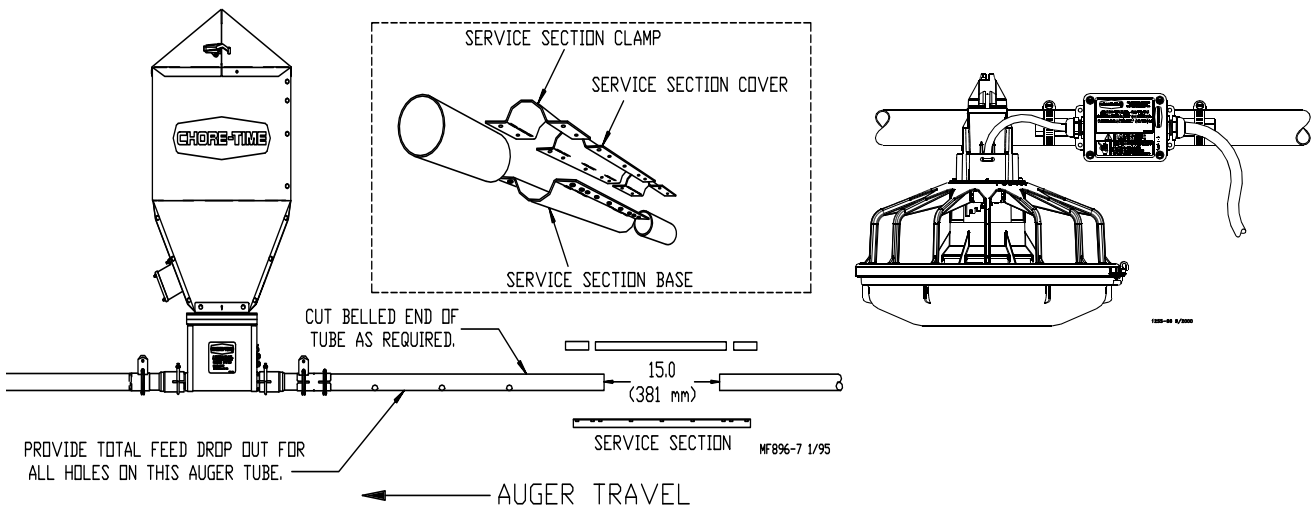

Figure 31. Service Section Installation
15. Figure 31 shows the preferred location of the service section.